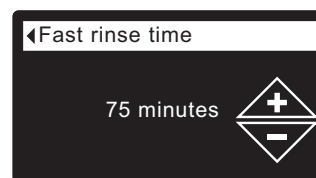

FIG. 77
- 8b. Fast rinse time:** Press the UP (▲) or DOWN (▼) buttons to change the fast rinse time (aspirate time). Hold the button down to rapidly advance. The fast rinse time can be set from 1 to 99 minutes* (See Figure 77).